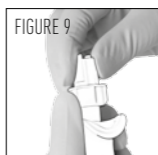

FIGURE 9
b. Hold the connecting nut of the part 1 with one hand and turn the part 2 with the other one according to the correction needed (see figure 9).